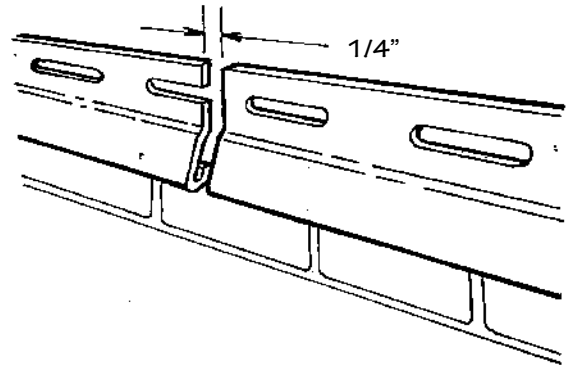

Figure 30.
- Keep the ends of starter strips at least 1/4" (6.4mm) apart to allow for expansion (Fig. 30).